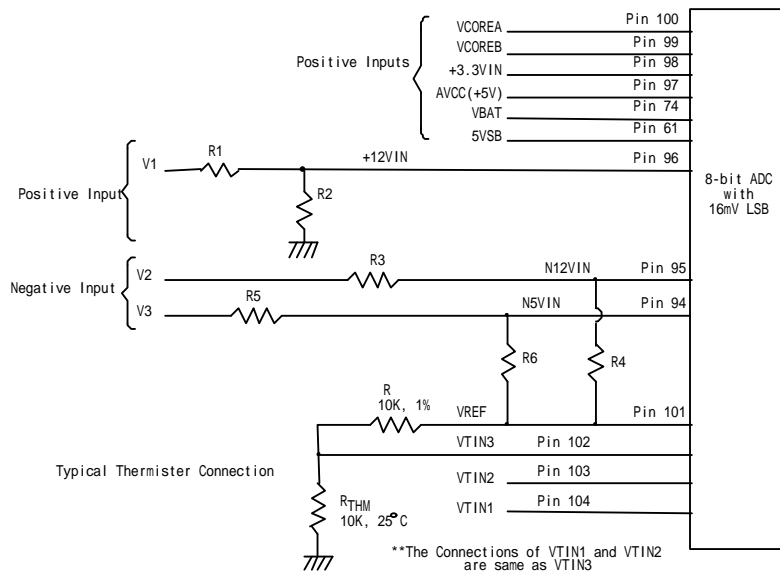

Figure. 9.2
The maximum input voltage of the analog pin is 4.096V because the 8-bit ADC has a 16mV LSB. Really, the application of the PC monitoring would most often be connected to power suppliers. The CPU V-core voltage ,+3.3V ,battery and 5VSB voltage can directly connected to these analog inputs. The +12V,-12V and -5V voltage inputs should be reduced a factor with external resistors so as to obtain the input range. As Figure 9.2 shows.
The negative voltage should be connected two series resistors and a positive voltage VREF (is equal to 3.6V). In the Figure 9.2, the voltage V2 and V3 are two negative voltage which they are -12V and -5V respectively. The voltage V2 is connected to two serial resistors then is connected to another terminal VREF which is positive voltage. So as that the voltage node N12VIN can be obtain a posedge voltage if the scales of the two serial resistors are carefully selected. It is recommended from Winbond that the scale of two serial resistors are R3=232K ohms and R4=56K ohm. The input voltage of node N12VIN can be calculated by following equation.
The W83697HF can connect three thermistors to measure three different environment temperature. The specification of thermistor should be considered to (1) β value is 3435K, (2) resistor value is 10K ohms at 25°C. In the Figure 9.2, the thermistor is connected by a serial resistor with 10K Ohms, then connect to VREF (Pin 101).